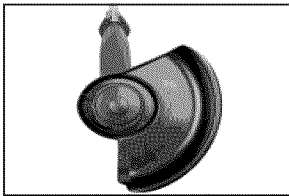

Figure 4 - Placing cutting guard over cutting head
2. Place cutting guard over spool housing at a slight angle. Push guard back depressing tabs toward front of cutting guard. (See figure 4). Drop back of cutting guard into place.